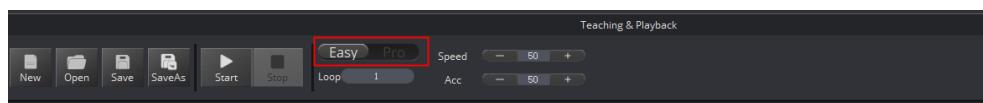

Figure 5.206 Switch advanced function
Step 1 Click icon on the **Teaching&Playback** page, as shown in Figure 5.206.